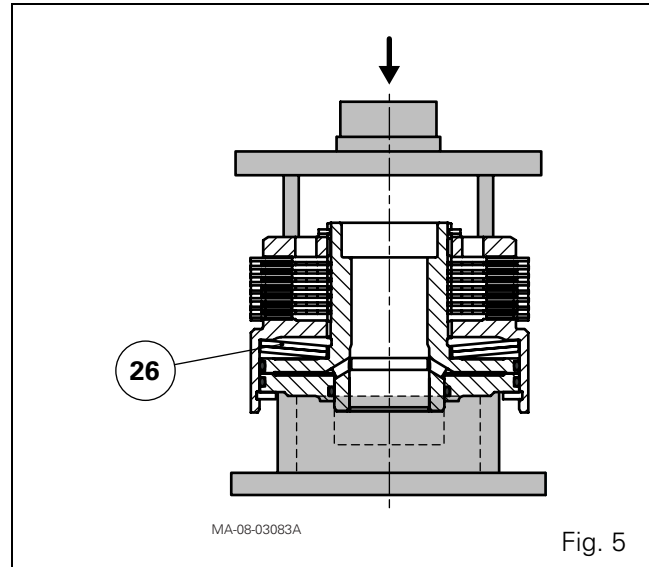
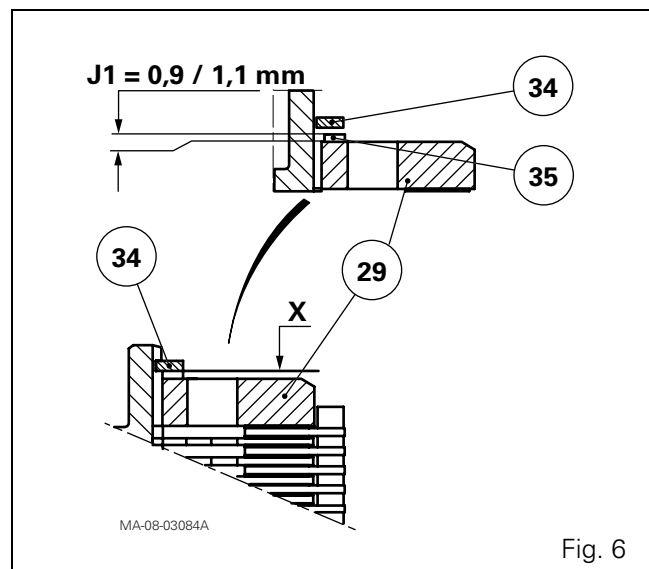

Fig. 5
Fig. 6
44. Using a press and suitable fixture (Fig. 5), apply a load of 2000 daN to fully compress the Belleville washers (26).
45. Fit the circlip (34). Use a set of shims to increase the distance X (Fig. 5) between the cover (29) and the circlip (34). Select the shim(s) (35) to obtain a clearance (Fig. 6):
46. Remove the circlip (34).
49. Lubricate and fit the "O" rings (24) (40) on piston (39) and refit the latter.
50. Fit the circlip (38).
51. Assemble the clutch assembly (15) and bell gear (10).
**NOTE:** The ring (6) is force fitted in the bell gear and then rebores.
52. Refit the clutch assembly (15) and bell gear (10). Repeat steps 21 to 28 (see § C).
6. Remove pins (16) from the arms using a suitable extractor inserted into the threaded hole provided in the pins for this purpose (Fig. 6). Remove the arms.